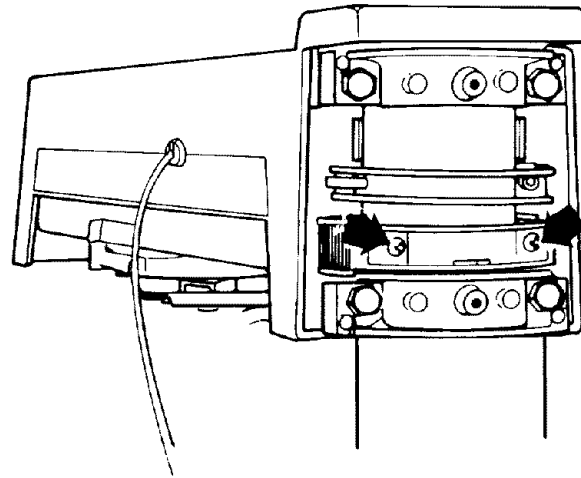

Fig. 130 - Screws for Miter Encoder
1. Slide the *battery* into the opening behind the digital display with the angled corner on top. (Figure 130)
19. Loosen the mounting screws on the *miter encoder* until the *encoder* will slide to the right and left. (Figure 130)